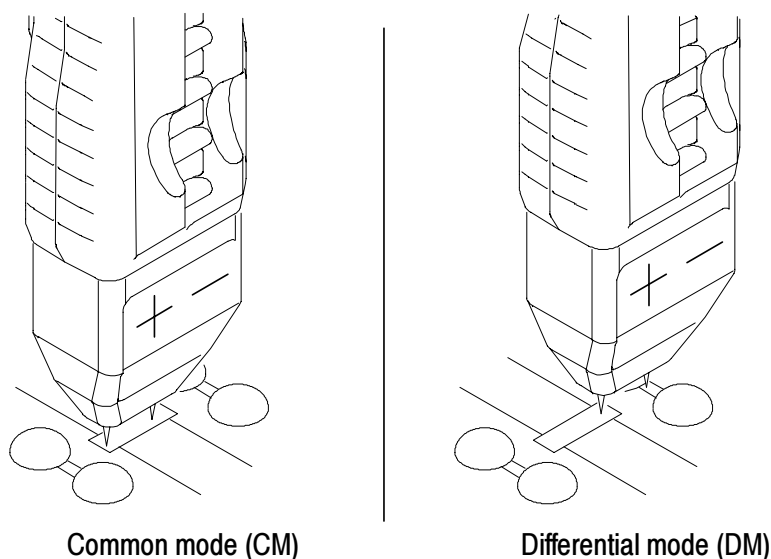

Figure 20: Probe Calibration Fixture test points
5. Using the fine position and/or pressure adjust, maneuver the probe so that the pins contact the CM or DM test points, depending on which test you are performing. (See Figure 20.)